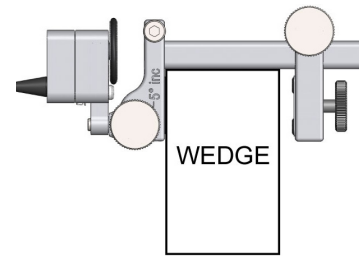

Figure 2
- Place wedge between the fixed bar and clamping bar and up against the slider bar as shown in Figure 2.